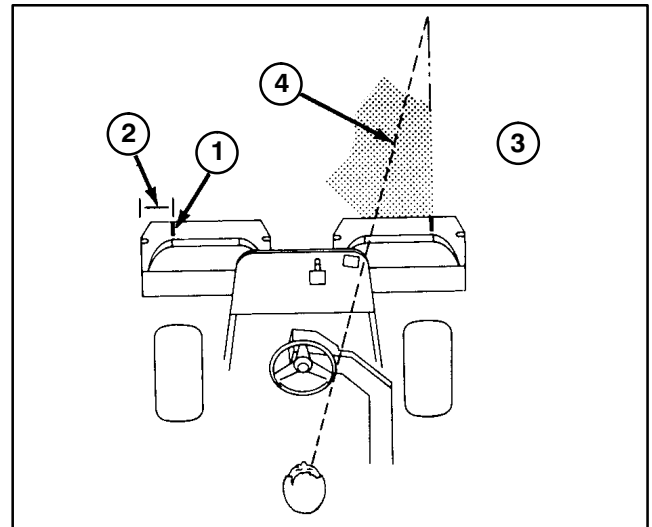

Figure 26
2. Either place a strip of white tape or paint a line onto each basket paralleling the outer edge of each basket (Fig. 26)
3. Overlap a minimal amount with the previous cut on return passes. To assist in maintaining a straight line across the green and keep the machine an equal distance from the edge of the previous cut, establish an imaginary sight line approximately 6 to 10 feet ahead of the machine to the edge of the uncut portion of the green (Fig. 26 & 27). Some find it useful to include the outer edge of the steering wheel as part of the sight line; i.e. keep the steering wheel edge aligned with a point that is always kept the same distance away from the front of the machine (Fig. 26 & 27).